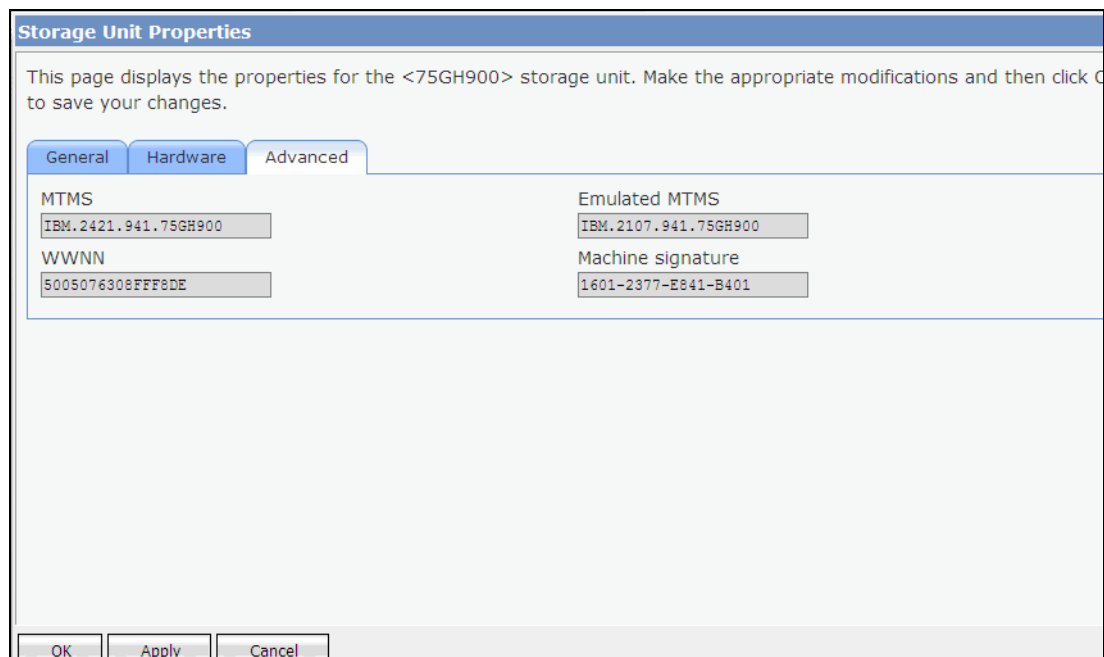

Figure 10-4 Storage Unit Properties window
4. The Storage Unit Properties window opens. Click the **Advanced** tab to display more detailed information about the DS8700 storage image, as shown in Figure 10-4.